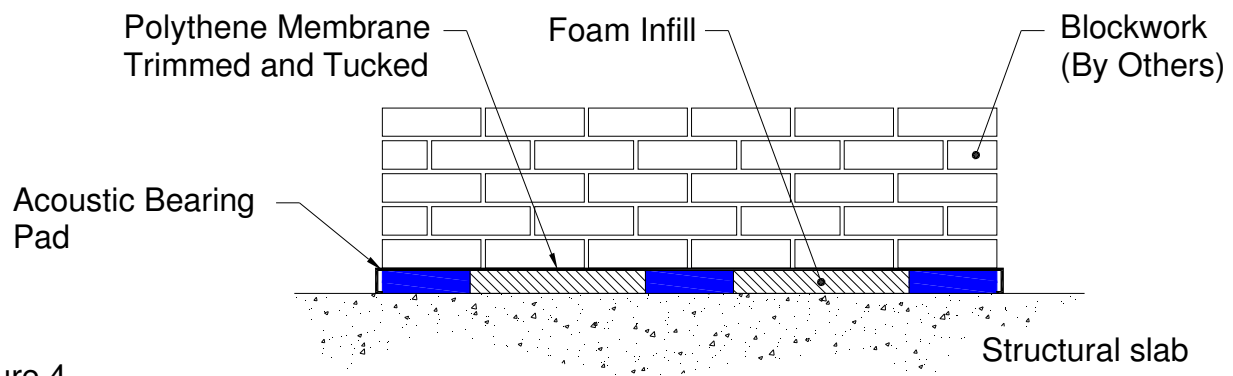

Figure 4
- 6) Once all blockwork has been completed, remove any debris and mortar snots from around or between the pads to prevent possible vibration short circuits, cut back polythene as necessary and tuck to provide future protection against the ingress of debris (See Figure 4).